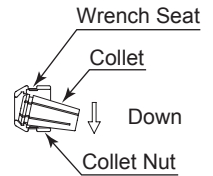
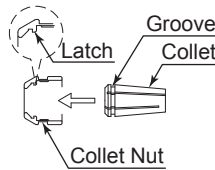
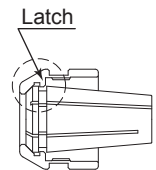

Fig. 6
Fig. 7
Fig. 8
- ② The collet and collet nut are secured by a groove in the collet and a flange in the collet nut. To remove the collet hold the collet nut in one hand and push diagonally down on the collet. The collet should be released (Fig. 6).
- ③ To install the collet, hold the collet at a slight angle, and insert it into the collet nut (Fig. 7). Press the collet in the collet nut by positioning the collet in the collet nut and pressing down on flat surface (Fig. 6). Be sure to fully engage the latch inside the collet nut into the groove on the collets outer circumference area (Fig. 8).